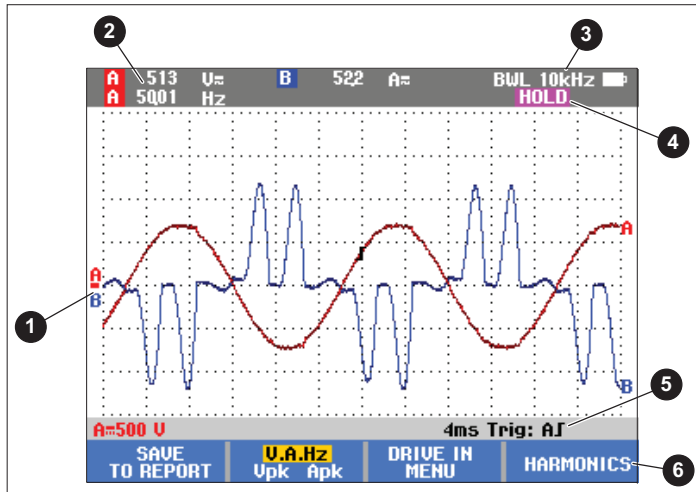

Figure 4. Measurement Screen
The display shows the waveforms ① as well as the readings ② that correspond to the selected measurement. See Figure 4.